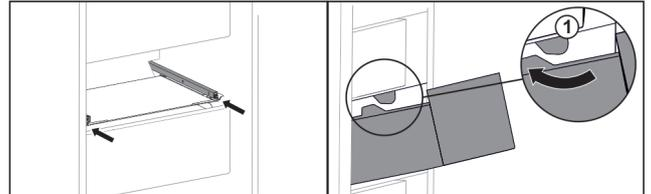

Fig. 125
- ▶ Guide drawer around the stoppers Fig. 125 (1).